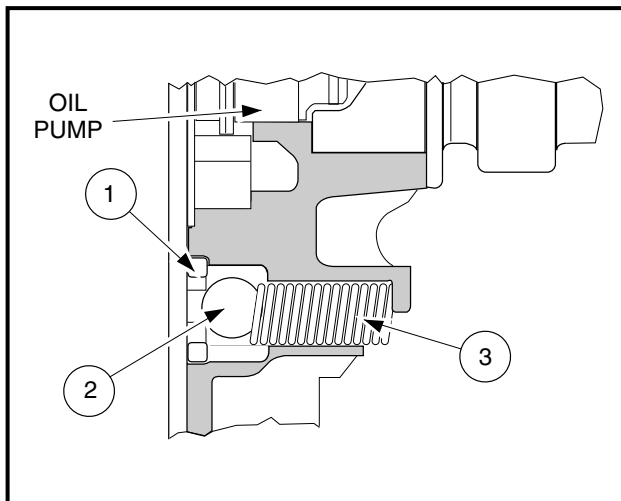
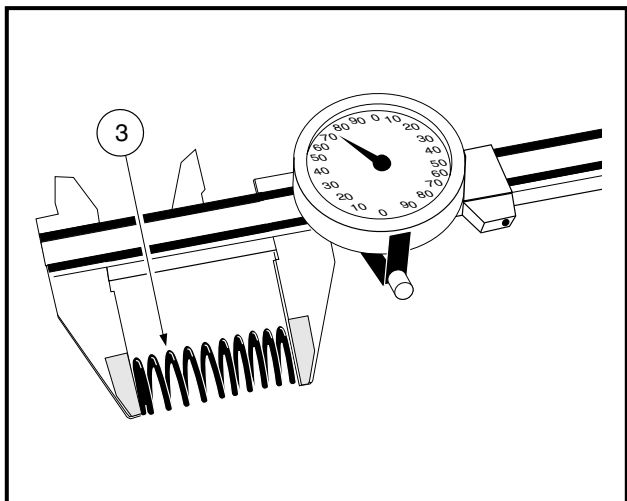

Figure 2-64 Oil Pressure Relief Valve
Figure 2-65 Measure Free Length of Spring
2. Remove the valve seat (1), ball (2) and spring (3) (**Figure 2-64, Page 2-30**).
1. Note the condition of the ball (2) and the valve seat (1). They must not have any nicks or burrs (**Figure 2-64, Page 2-30**).
2. Inspect the relief valve spring (3) for pitting, cracks, rusting and burrs. Replace it if necessary.
3. Measure free length of the spring (3) with a vernier caliper (**Figure 2-65, Page 2-30**). If the free length of the relief valve spring is less than 0.748 inch (19.00 mm), replace the spring.